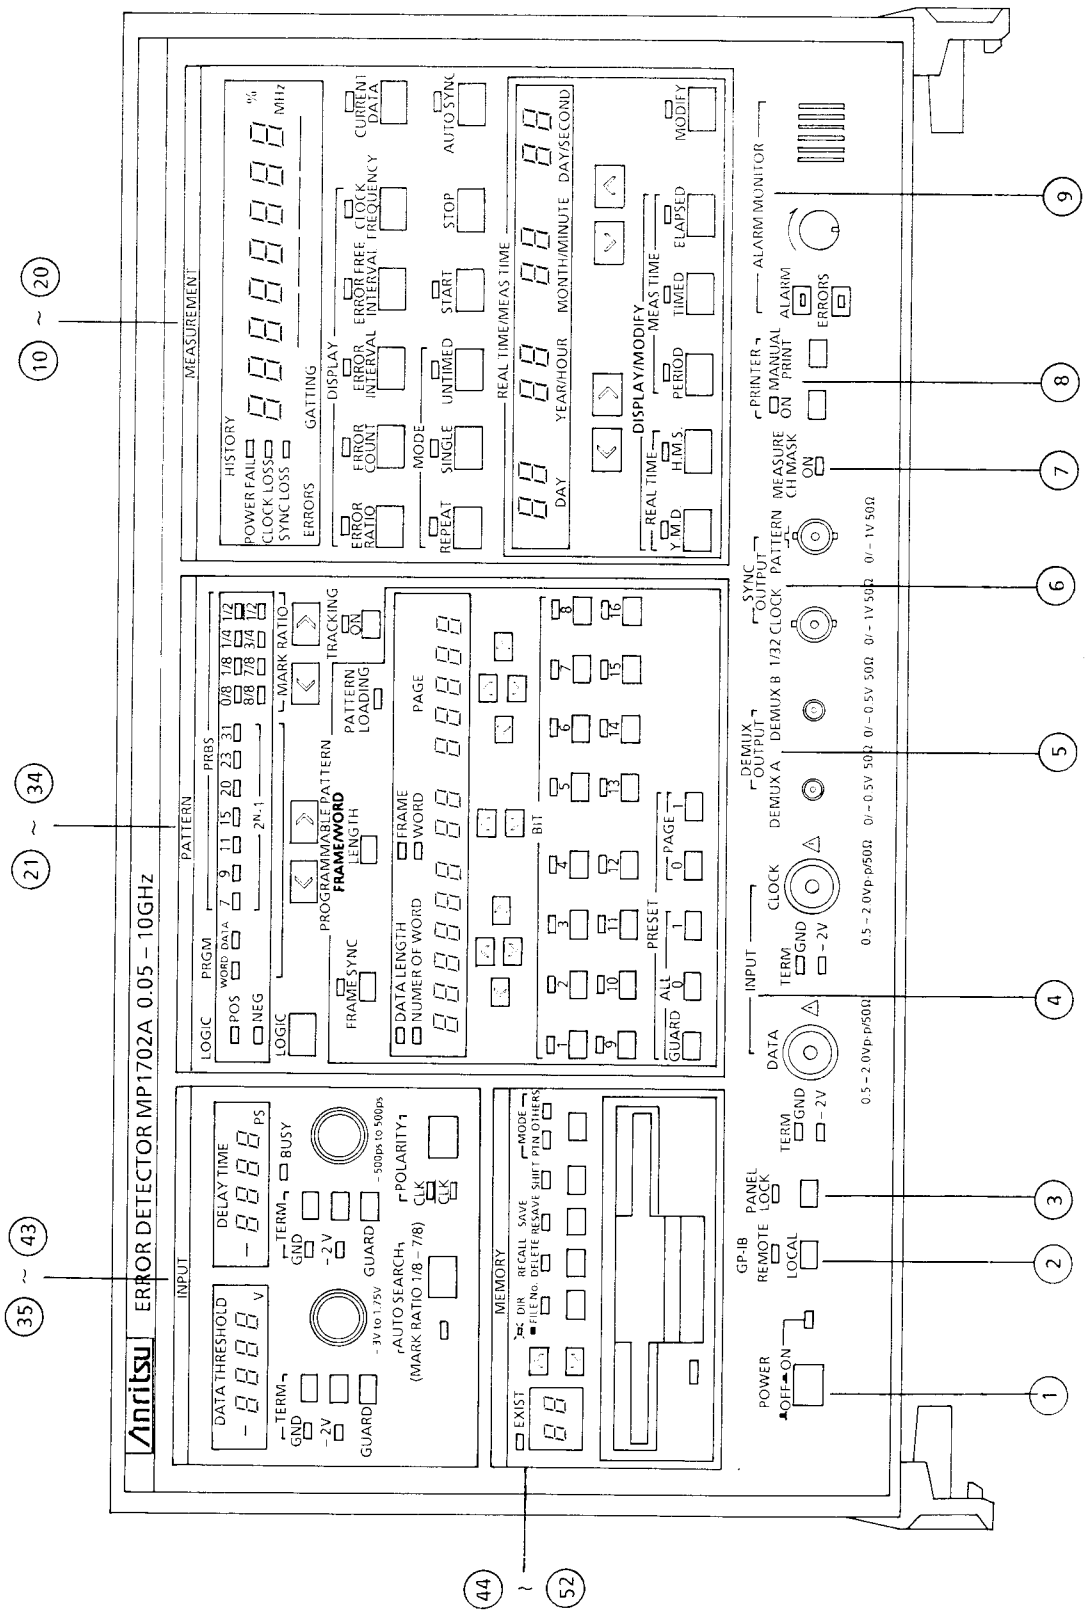

Fig. 3-1 Front Panel
Number such as ④, ② and ① which appear in the text, correspond to the labels on the controls in Figs. 3-1 to 3-6.